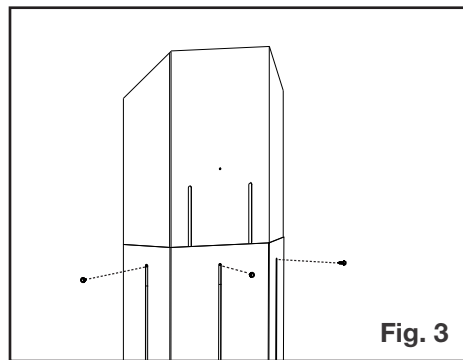

Fig. 3
3. Use the fasteners in step 1 to hold the new vent shield height **(Figure 3).**